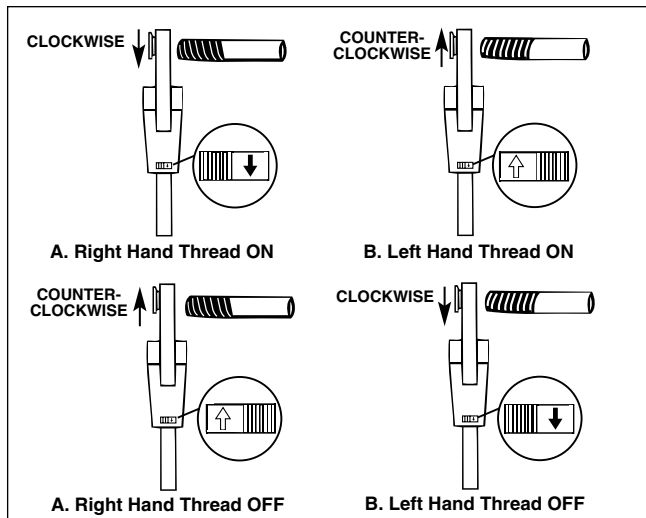

Figure 6 – Direction Change Switch/Die Head Orientation
- Position the directional switch for the desired right or left hand thread (*Figure 6*).